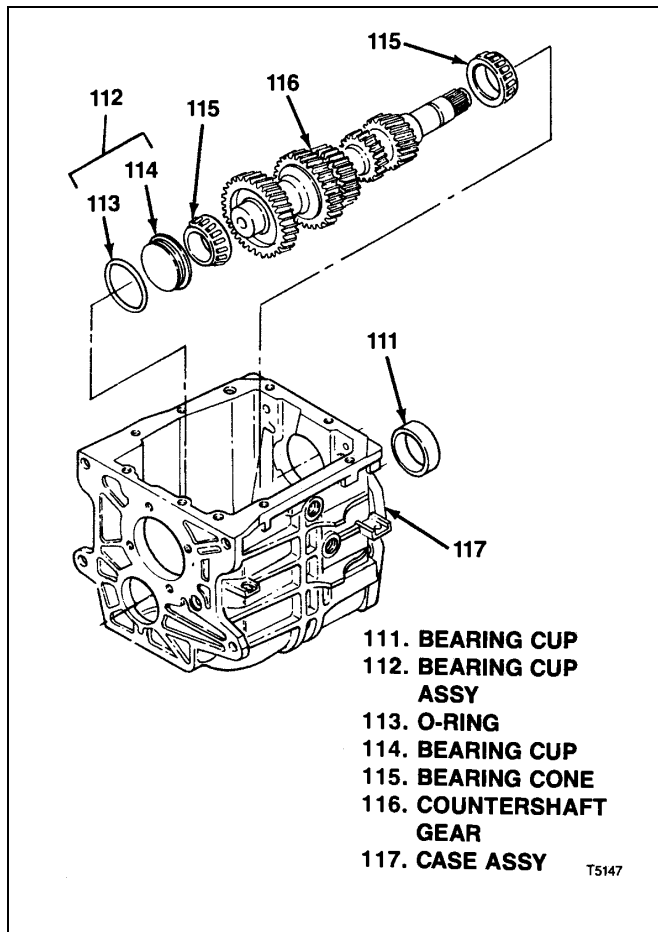

Figure 3-13. T5 WC Countershaft Gear
3-19. REMOVAL OF T5 WC COUNTERSHAFT GEAR (see figure 3-13):
Mark synchronizer sleeve (47) and hub (49) so that clutch teeth and faces can be assembled exactly as they were originally. Sleeve and hub are a matched set, selected at manufacture. Disassemble as follows (see figure 3-13):
- Unhook and remove springs (46).
- Slide sleeve (47) from hub (49), freeing inserts (48).